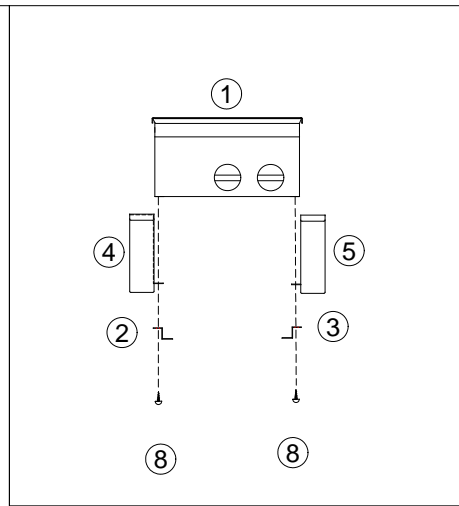

FIGURE 2
2. Assemble Searmate(1), sides (4,5) and runners(2,3) as shown in FIGURE 2, using the same screws you took out (8)